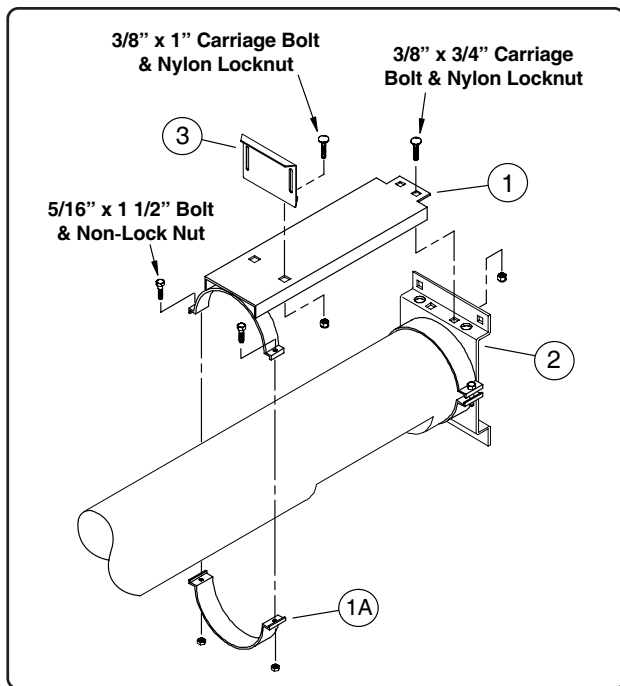

Fig. 8
2. Attach the motor mount weldment and back plate to the head plate (Ref. 2) using two 3/8" x 3/4" carriage bolts and nylon locknuts (See Fig. 8).
3. Using the half-band (Ref. 1A) shown in Fig. 8, secure the motor mount weldment to the auger tube using two 5/16" x 1 1/2" bolts and non-lock nuts.